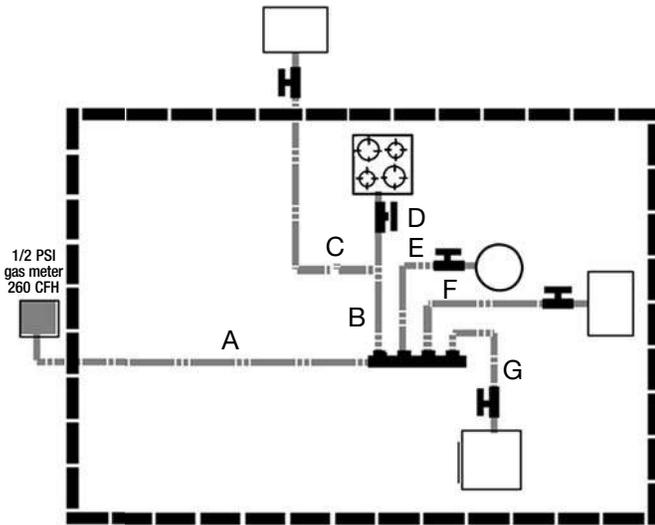

Figure 3-4
1. The system shown in Figure 3-4 has a barbeque installed nearby the range. A parallel arrangement was chosen for the medium pressure system (12 inch W.C. with 6 inches W.C. drop) with a single run feeding both range and barbeque in series.